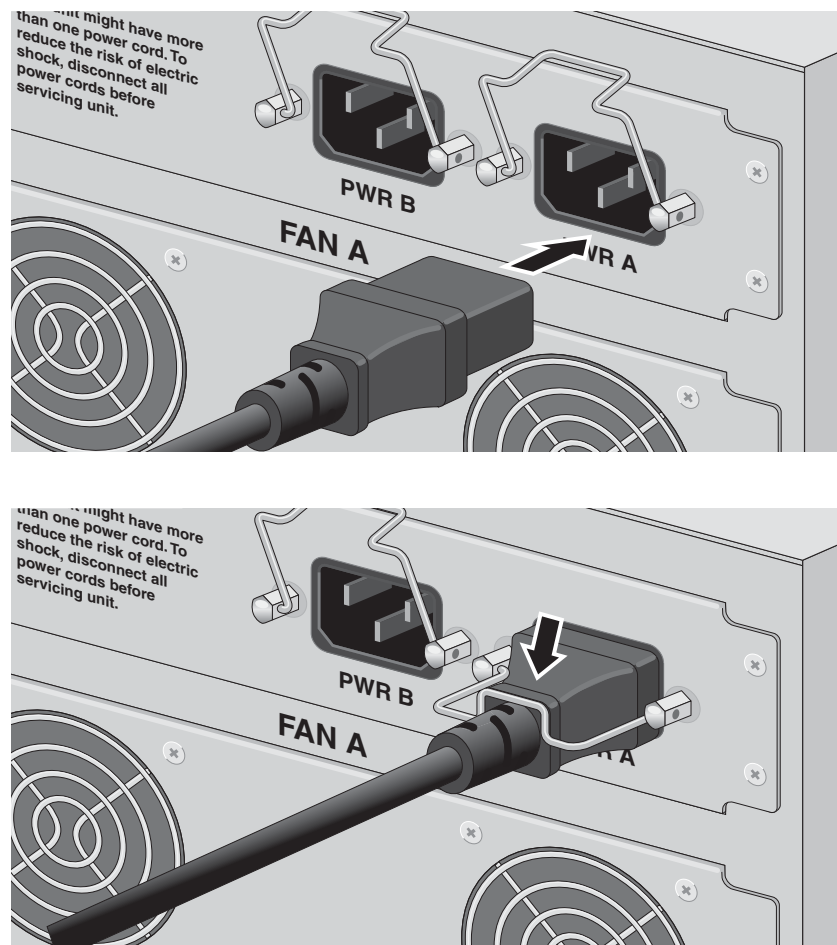

Figure 11 Securing an AC Power Cord
1. Connect the AC power cord to the PWR A power connector on the back panel of the chassis. See Figure 11.